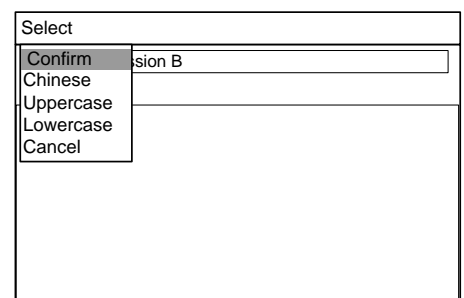

Fig.24-5
4. After modification/entering, press "Menu" (Figure 24-5), select "Confirm", and then press "OK" to begin system compiling. If successful, it will display "Logic relations compiled successfully". If not successful, display will indicate error information. If you don't want to save this change, select "Cancel", and press "OK" to quit.